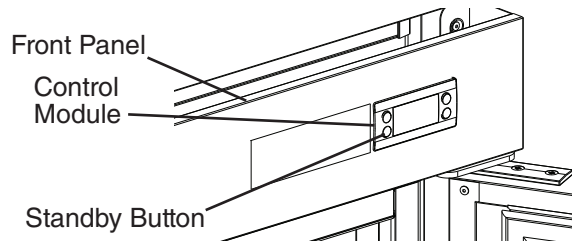

Fig. 65
2) Press and hold the standby button on the control module until "OFF" appears in the display, then unplug the appliance from the electrical outlet. See Fig. 65.